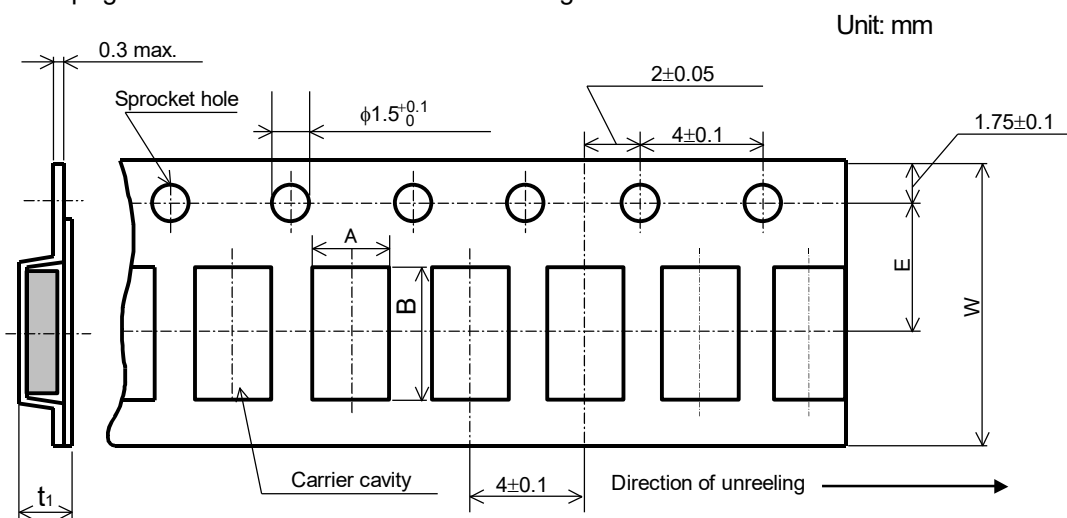

Figure-5
8.2.2 Embossed taping dimensions shall be in accordance with Figure-5 and Table-6.